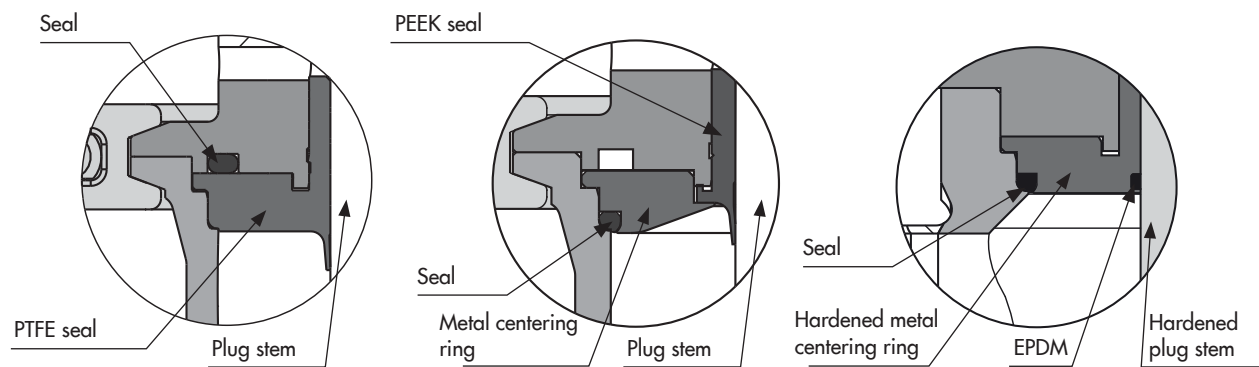

Fig. 11: Overview of seal systems in detailed view
- **Three plug stem seal systems:** PTFE (for most standard applications), PEEK and anti-crystallizing seal (metal centering ring with O-ring and hardened plug stem). See Fig. 11)
Principle of operation (Fig. 3 to Fig. 11)